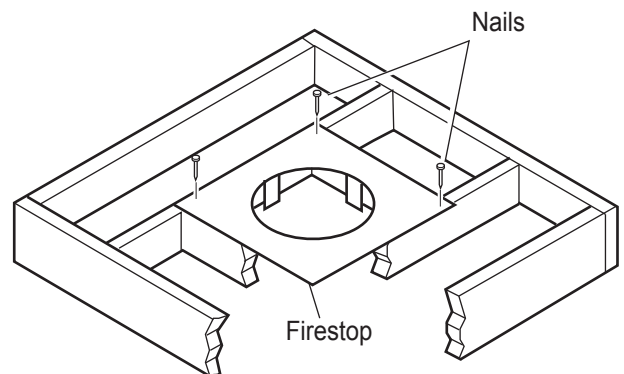
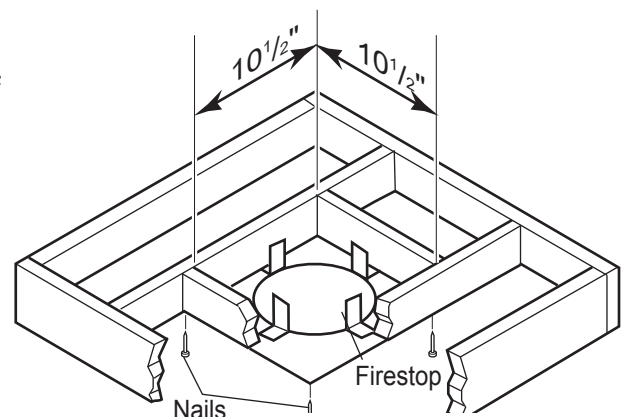

Figure 28- If area above is a room, install firestop above framed hole as shown
Figure 29 - If area above is not a room, install firestop below framed hole as shown
1. Cut a $10\frac{1}{2}$ " (267mm) square hole in the ceiling using the locating hole as a center point. The opening should be framed to $10\frac{1}{2}$ "x $10\frac{1}{2}$ " (267mm x 267mm) inside dimensions as shown in Figure 12, page 17 using framing lumber the same size as the ceiling joist. If the area above the ceiling is an insulated ceiling or a room, nail firestop from the top side. This prevents loose insulation from falling into the required clearance space. See Figure 28. Otherwise, install firestop below the framed hole. The firestop should be installed with no less than three nails per side. See Figure 29.